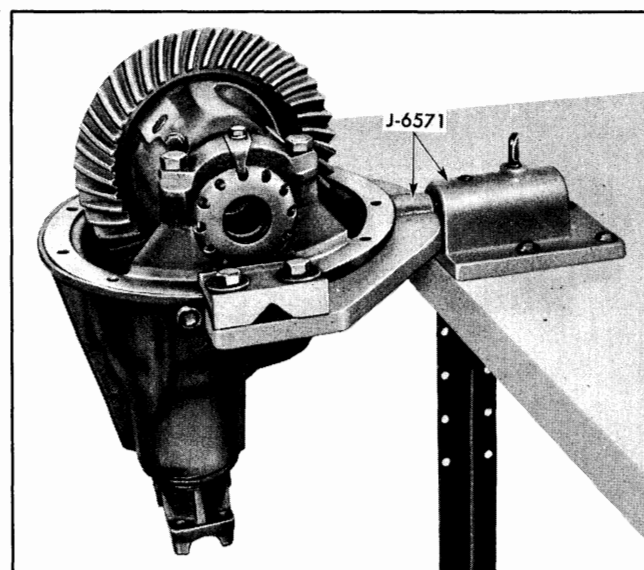

Fig. 4-18 Differential Mounted in Fixture J-6571
2. Wash interior parts of assembly with cleaning fluid and mount in carrier fixture J-6571 (Fig. 4-18).